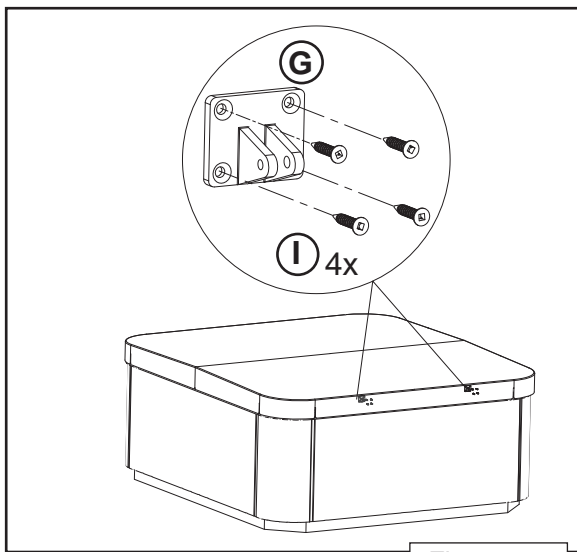

Figure 2.1
2. Line up the top Rear Hinge(G) holes (Figure 2.1) with 2 of the marked holes on the back side of the cover. Using the cordless drill and square drive bit fasten the Rear Hinge(G) to the cover by using two of the #10 x 1"square (I) Flat Head screws on the top (marked) holes first. Using the 1/8" drill bit and the bottom two holes of the Rear Hinge(G), drill through the hidden aluminum plate followed by inserting two more of the same screws in the bottom holes. Repeat procedure for second Rear Hinge.